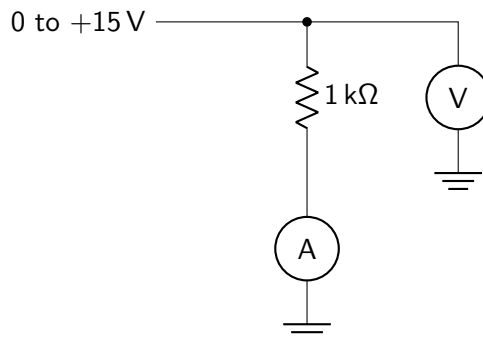

Figure 4: What's wrong with this innocent variation on the circuit of Fig. 2?
- (b) What would be wrong if you put the current meter on the low side of the resistor, as in Figure 4 below?